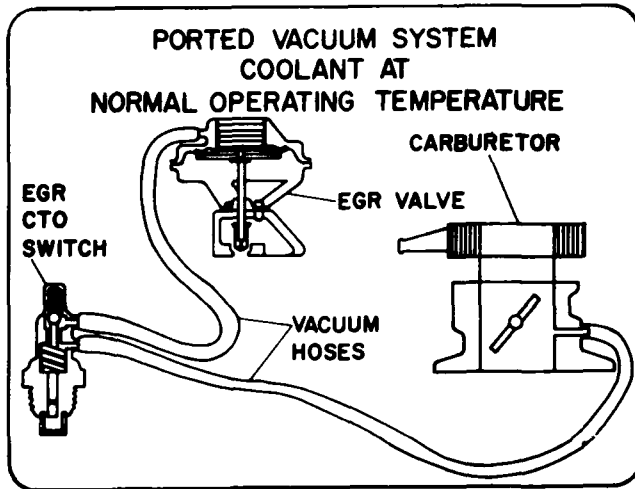

Figure 8-17
3. List the basic steps necessary to perform an operational test on the systems shown in Figures 8-17 and 8-18 when the engine is at operating temperature.